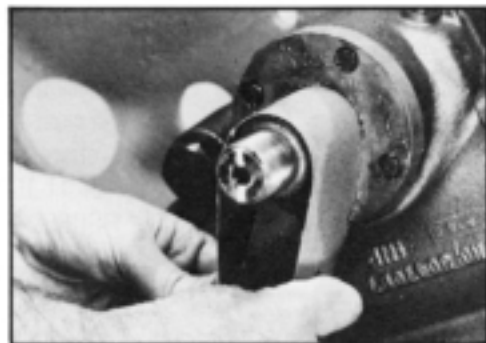

Figure 8
- 1.3 Clean the sector shaft (51) with a fine grade of emery paper. Be sure to remove any paint. SEE FIGURE 8.